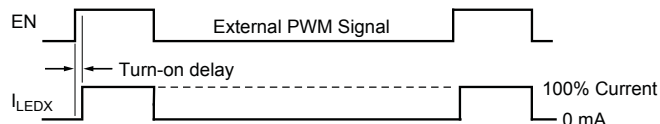

Figure 2. Timing diagram of external PWM signal and LED current
- **PWM dimming using the EN pin.** PWM dimming is performed by applying an external PWM signal on the EN pin. When the EN pin is pulled high, the A8501 turns on and all enabled LEDs sink 100% current. The sequence is shown in figure 2. For optimal accuracy, the external PWM signal should be in the range 100 to 300 Hz. The slight delay between PWM signal and the LED current causes an error. To compensate for the error, a small turn-on delay should be added to the PWM signal as shown on page 10 of the Performance Characteristics section. When EN is pulled low, the boost converter and LED sinks are turned off. The compensation (COMP) pin is floated, and critical internal circuits are kept active. If EN is pulled low for more than  $t_{PWML}$ , the device enters shutdown mode and clears all internal fault registers. As an example, for a 2 MHz clock, the maximum PWM low period while avoiding shutdown is 65 ms.